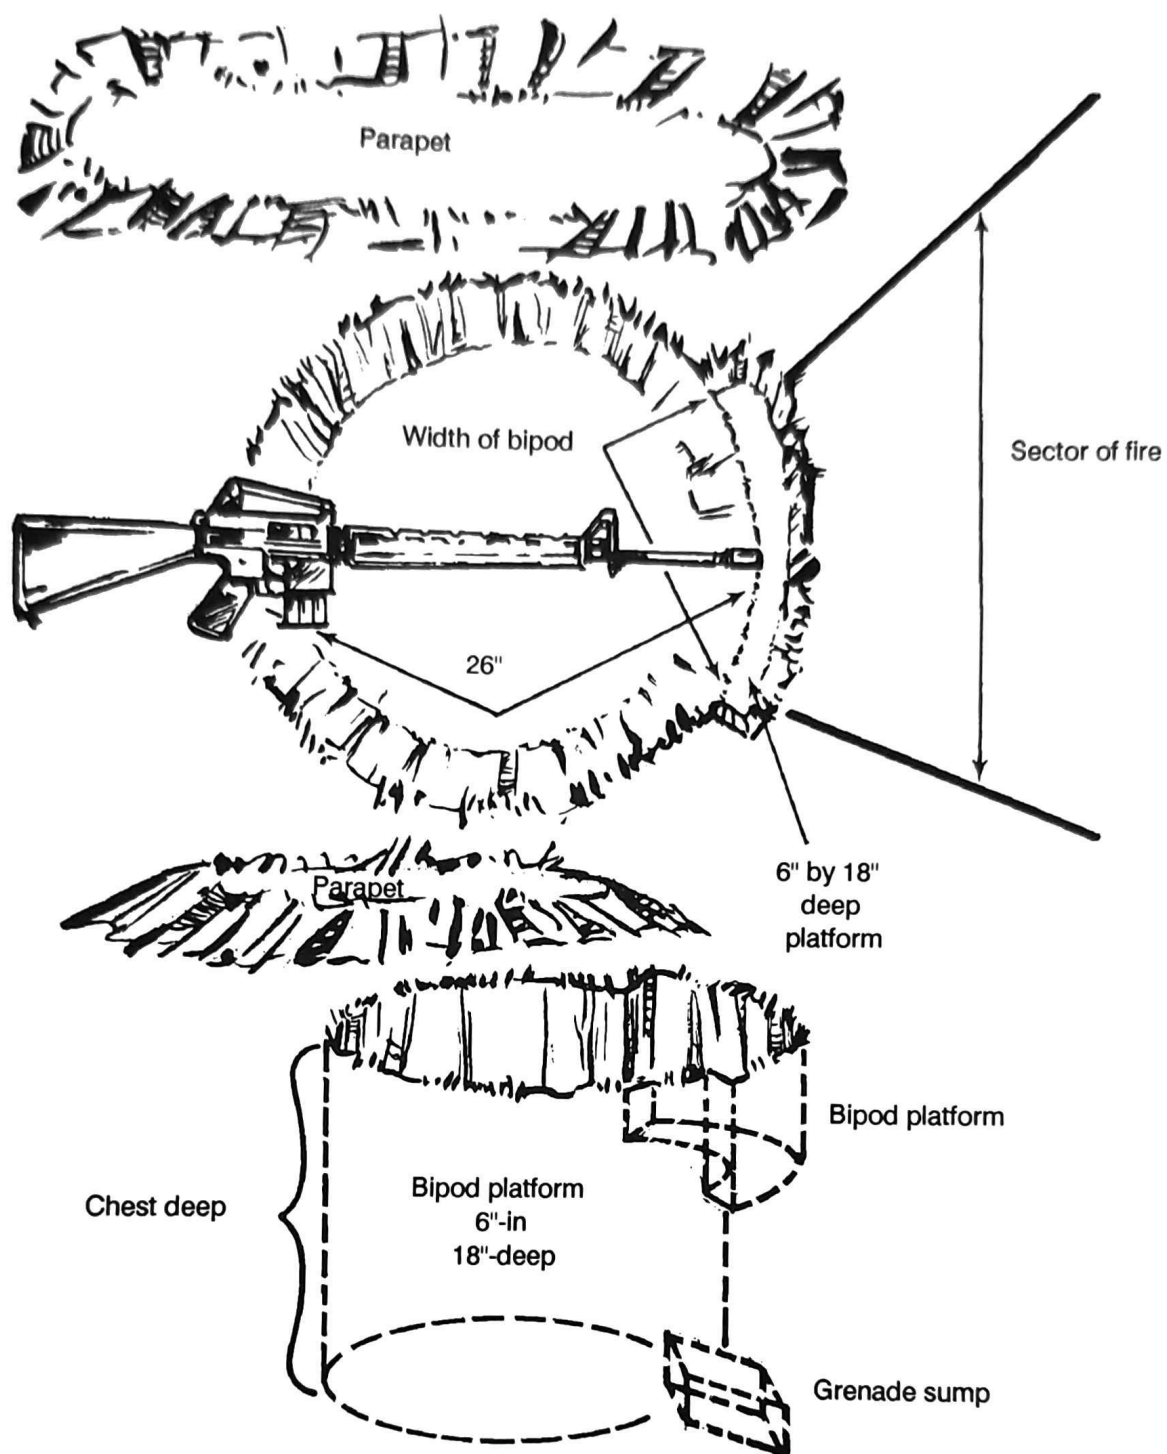

Figure 3-8. Construction of a one-man fighting position.
(2) The ground in front of and behind the position should be free of rocks, sand, and debris to prevent a dust cloud (caused by firing) from obscuring the gunner's vision, marking the location to enemy observers. When the Dragon is to fire in only one direction, a one-man fighting position is best. (See Figures 3-8 and 3-9.)
(3) The Dragon should be positioned to fire to the oblique so that its position can be protected from frontal fire while the target is being engaged from the flank. If necessary, the Dragon can fire to the front as well as to the oblique from a one-man fighting position.